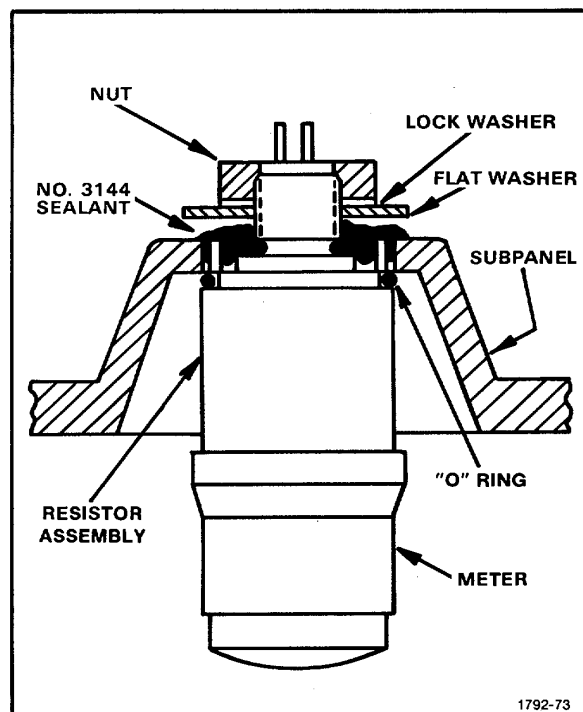

Figure 5-20. Installation of Distance Meter.
19. Install the DISTANCE METER in the Front Panel (see Fig. 5-20)